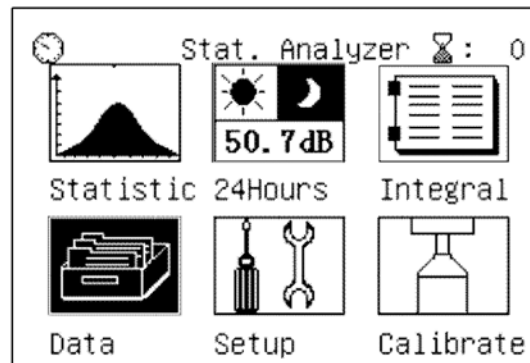

Fig. 39: Selection of memory data viewing mode
1. Select the **"Data"** icon in any measuring mode (see Fig. 39) and confirm with